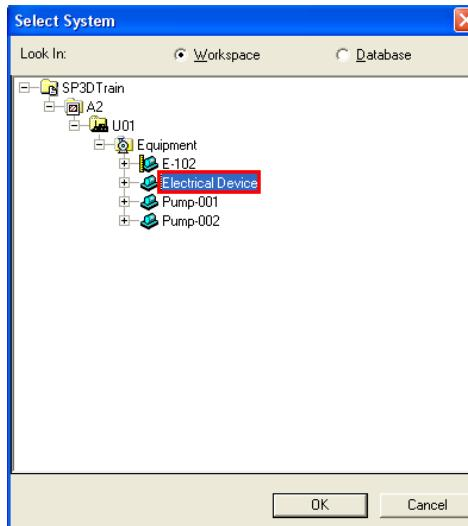

Figure 20: Select System Dialog Box
- In the **Cable Properties** dialog box, select the **More...** option from the **Originating Device** field and select **A2 > U01 > Equipment > Electrical Device** from the **Select System** dialog box, as shown in Figure 20.